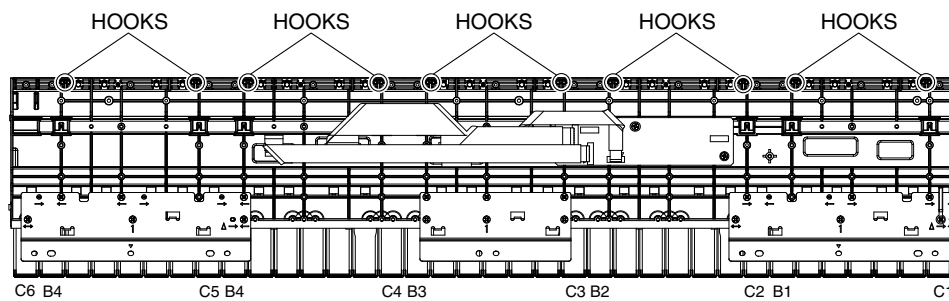

Fig. 14
When removing, unfasten the two (2) hooks at the back of the black keys upward, and lift the white and black keys while pulling them toward you a little. (Fig. 14)